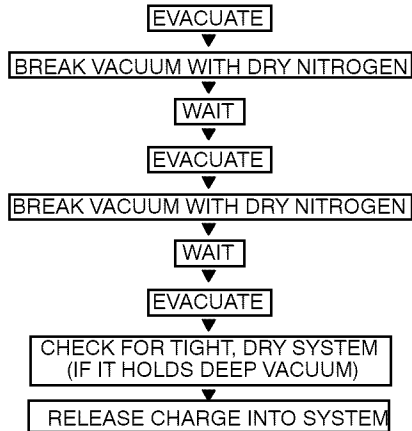

Fig. 37 - Triple Evacuation Method
Refer to Fig. 37 and proceed as follows:
5. Repeat this procedure as indicated in Fig. 37. System will then be free of any contaminants and water vapor.